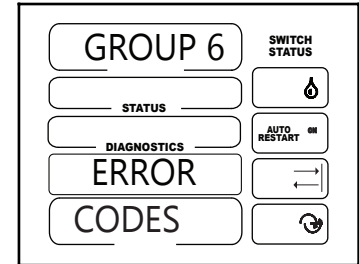

Figure 39-1
2. GROUP 6 will be shown in the display screen. See figure 39-1.